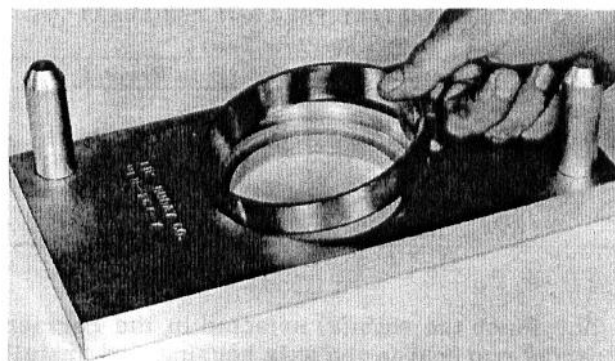

Fig. 37 - Placing Bearing Cup in Special Tool MFN 267-Y
4. Place the bearing cup in position on Tool MFN 267Y as shown in Fig. 37. Leave all shims out.